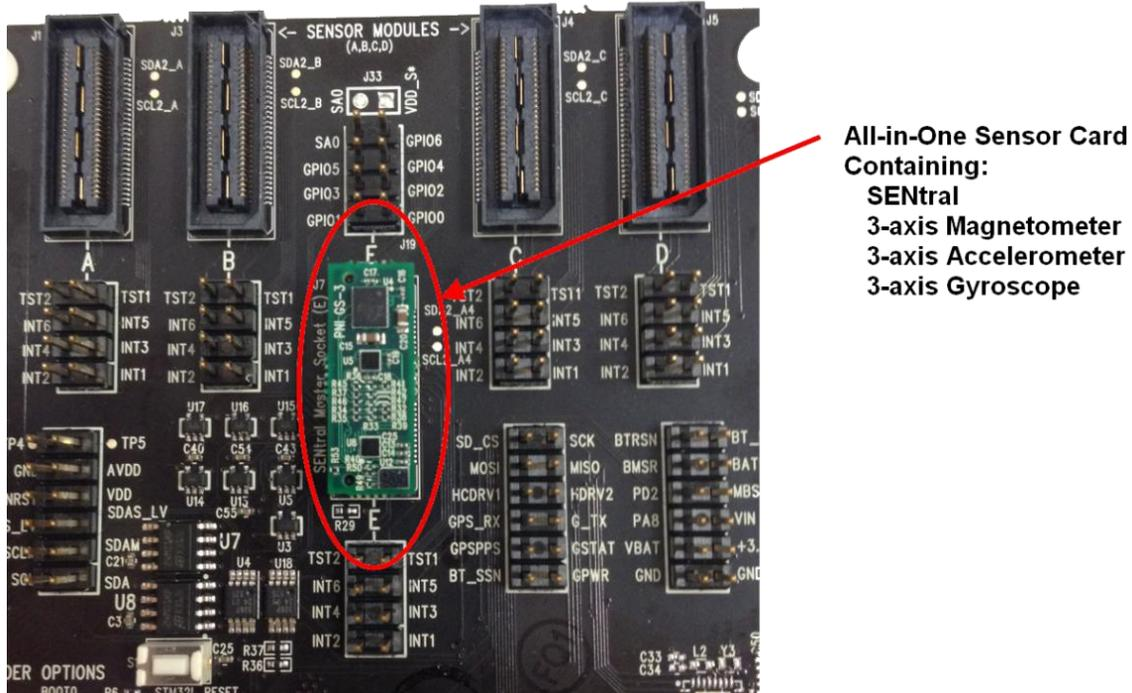

Figure 4-2: All-in-One Sensor module Mounted on Development Board
Master Socket (E). Such an implementation is shown in Figure 4-2. In this specific case, the all-in-one sensor module contains SENtral, a combo accelerometer/gyroscope, and a discrete magnetometer.